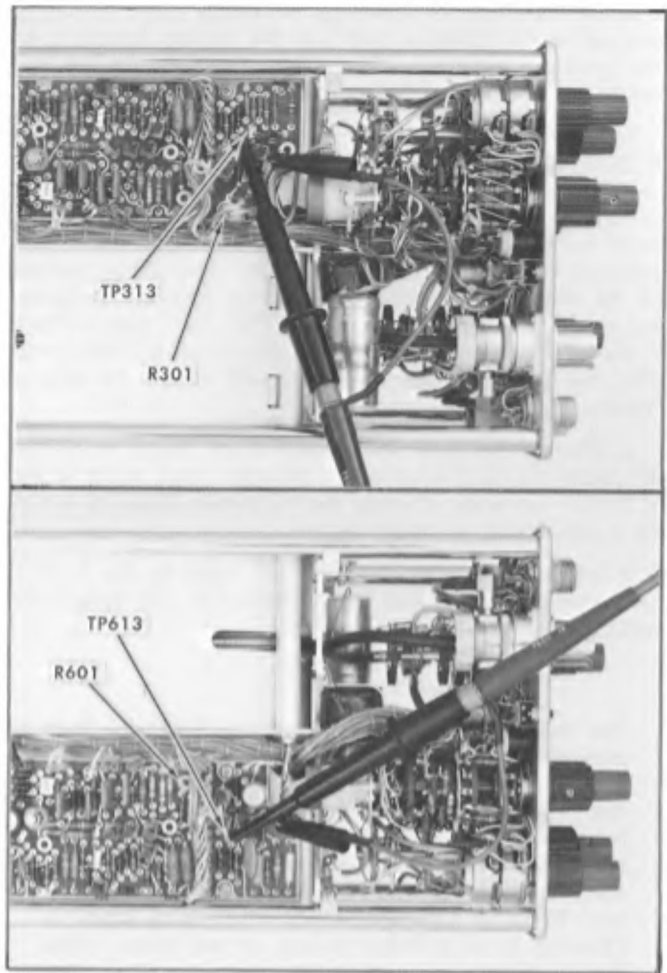

Fig. 8-22. Test points and adjustments for Step 15.
Connect the 1× Probe ground clip to the Type 351 frame near TP313, and connect the probe tip to TP313, as shown in Fig. 8-22.
d. Subtract the two Comparison Voltage recorded values. The difference should be 1.2 volts. If it is other than 1.2 volts, adjust the Type 351 internal Digital Gain control, R301 shown in Fig. 8-22, until the two voltage readings are 1.2 volts different.
e. Repeat the step for Channel B; test points and adjustments are shown in Fig. 8-22.